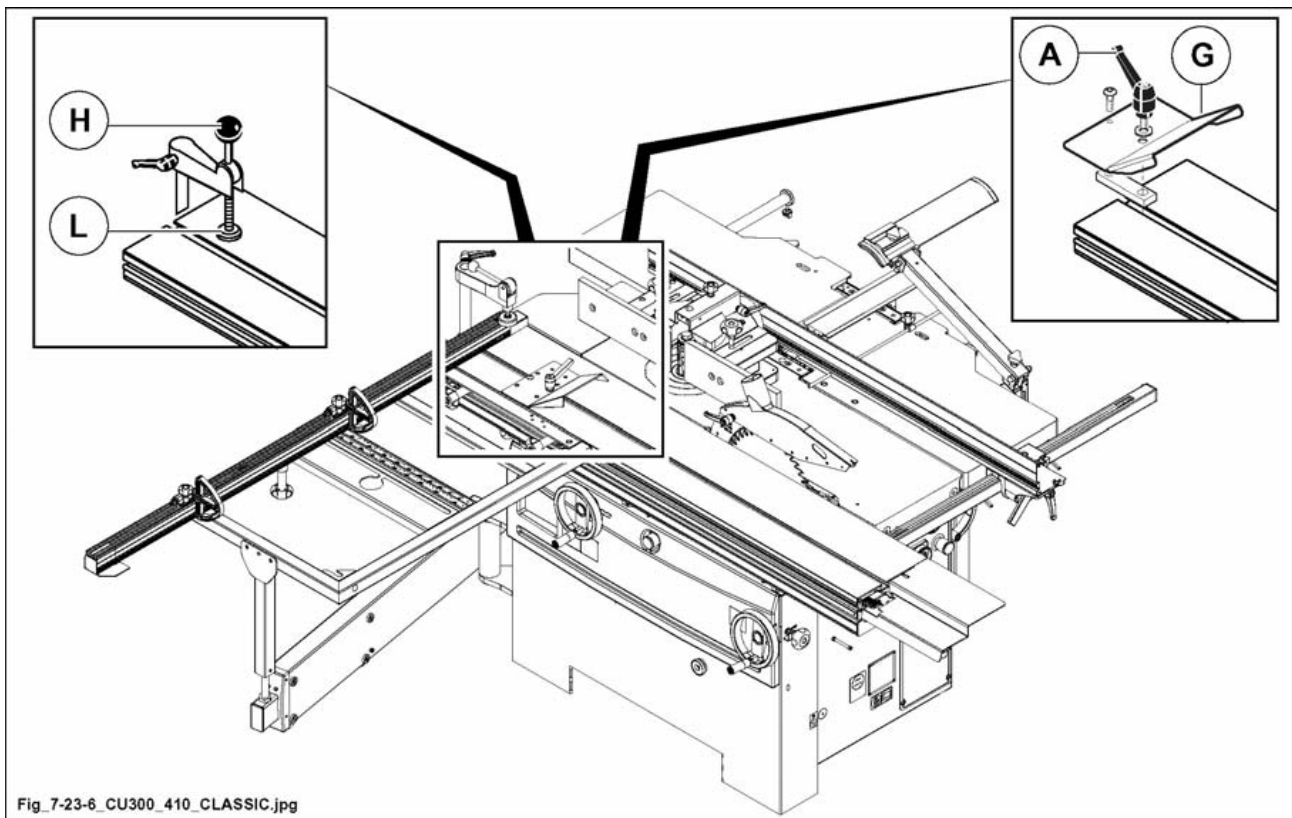

Fig. 7.23-6
- By means of lever (H fig. 7.23-6) lower foot (L fig. 7.23-6) for clamping the piece.
- Move stop (G fig. 7.23-6) to the required position;
- Tighten handle (A fig. 7.23-6) hard after adjustment.
the structure of device (G fig. 7.23-6) permits to perform precision stops also in pieces having an irregular stop surface.